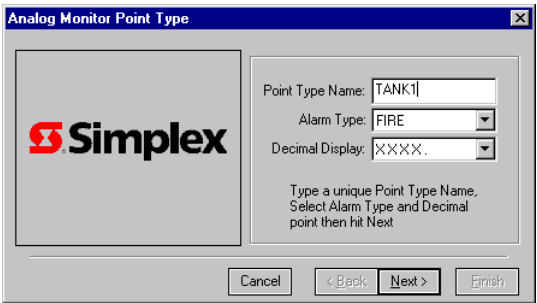

Figure 12-2. Initial AMON Point Type Dialog
1. To start this wizard, right click in the blank space just below the Point. When the menu appears, click on **Add**. A dialog similar to the one shown in Figure 12-2 appears.